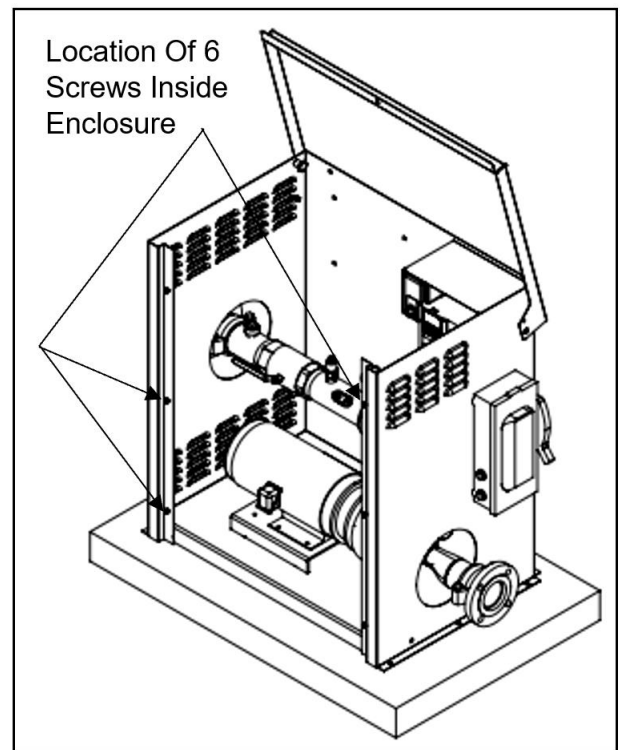

Figure 5-3. Removing The Front Cover.
pump station enclosure and lifting the front cover away from the flanges on either side of the enclosure. See Figure 5-3.
- a. Re-install the front cover by placing the cover in the flanges on either side of the pump station enclosure. Secure the front cover by re-installing the six screws in the holes located inside the pump station enclosure. See Figure 5-3.
- b. If it is necessary to remove the front cover, remove the six screws located on the inside of the pump station enclosure and lift the front cover away from the flanges on either side of the enclosure. See Figure 5-3.